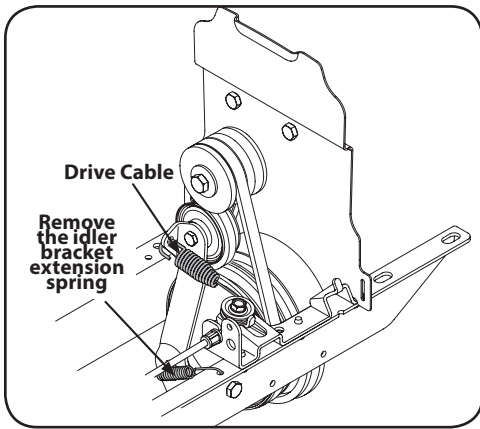

Figure 5-5
4. Remove the idler bracket extension spring from the idler bracket using a pair of needle-nosed pliers. Grab the spring by the end that hooks over the frame, pull it away from the frame, then up and carefully relieve the tension of the spring. See Figure 5-5.
5. Unhook the drive cable from the idler bracket. See Figure 5-5.